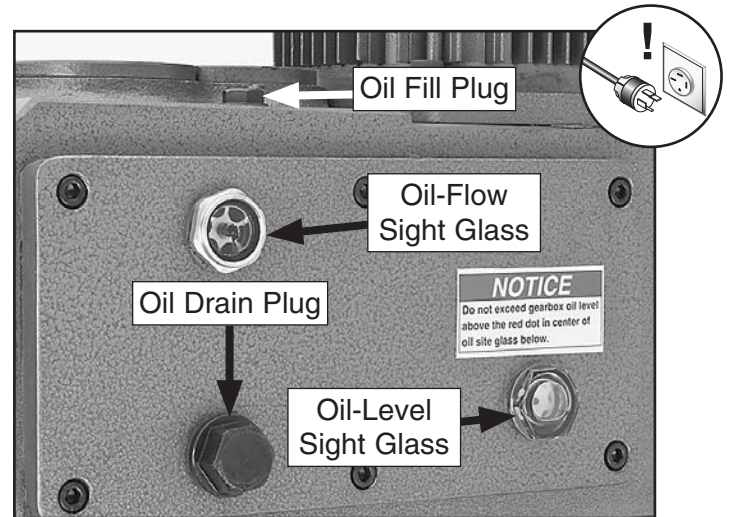

Figure 34. Headstock oil fill and drain locations.
1. Remove oil fill plug on top of headstock (see **Figure 34**).